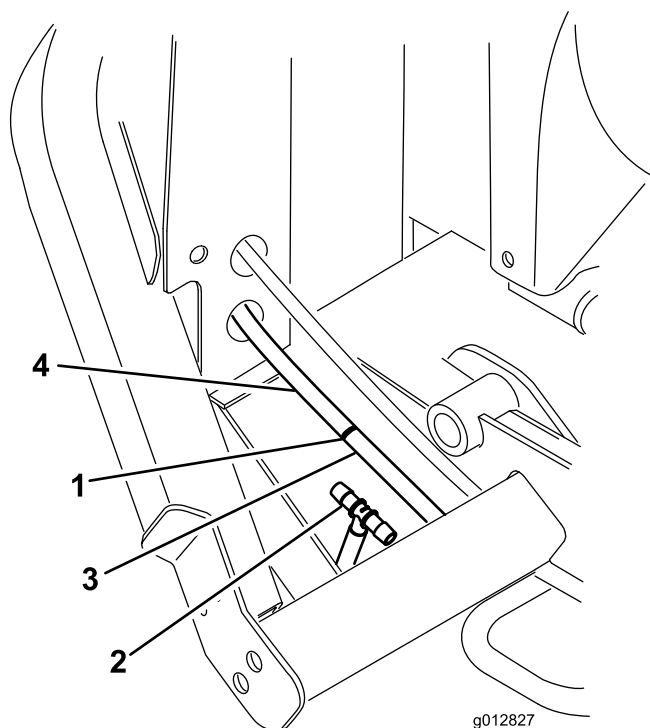

Figure 19
26. Measure approximately 5 inches from the radiator frame and cut the oil cooler return hose. This is the hose between the deck lift valve and the oil cooler. Hold the hose ends upward to decrease the amount of hydraulic fluid lost (Figure 19).
27. Install hose clamps and insert the ends of the hydraulic tee fitting into the cut hose ends (Figure 19).